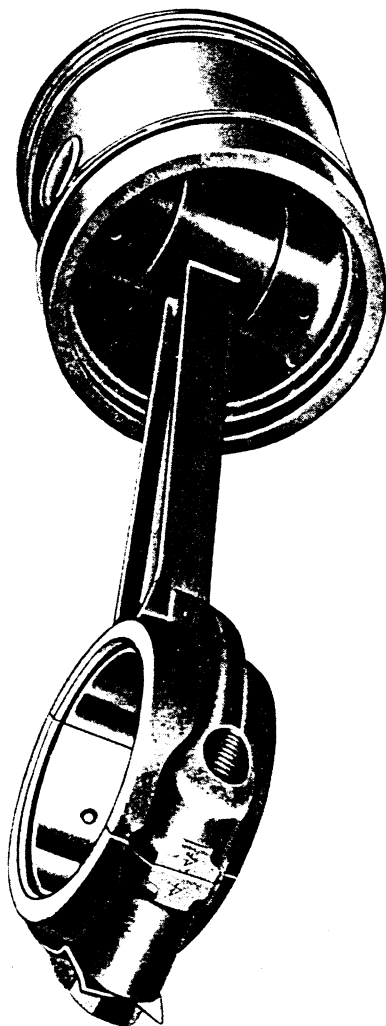

FIG. 30
Before proceeding to remove pistons and connecting rods, notice whether the small adjacent faces on rods and caps are appropriately marked, as shown in Fig. 30. If not, mark them with a centre punch, No. 1 to front. Mark piston crowns similarly.
7. Replace bearing cap with distinguishing marks adjacent as shown in Fig. 30.